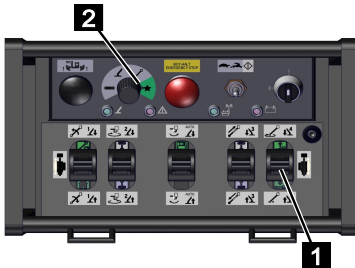

Fig. 122
4. Set the function selector to [special function] (green) (Fig.122/2).
5. Push the control lever (Fig.122/1) forwards until the work position has been reached.